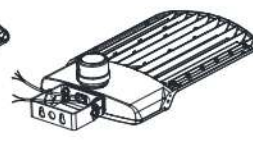

Figure 8
Step 2: Install the bracket on the fixture. (Figure 8)